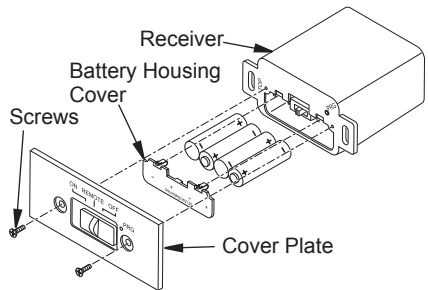

Figure 31 - Battery Install Remote Control Receiver
3. Attach cover plate to receiver with 2 screws as shown in Figure 31.